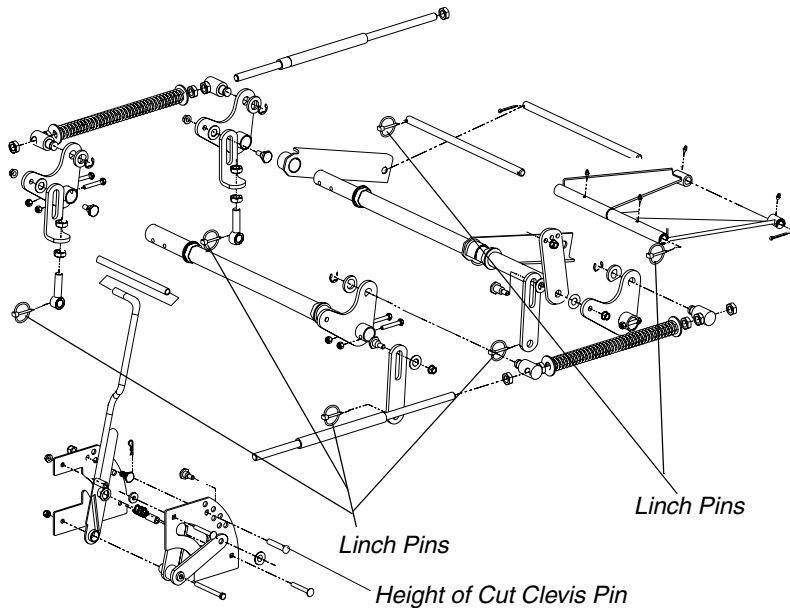

Figure. 6
- Remove six lynchpins (See Fig. 6) (4) from the deck and (2) from the front of the mower. Remove the lynchpins on the left and right rear side of the cutter deck (2); remove the lynchpins on the left and right front side of the cutter deck (2); and remove the lynchpins on the front of the mower (2).